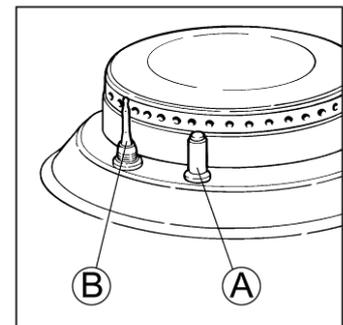

Fig. 5
- **Electric lighting of the burners with safety device** - The cook-top is equipped with electric ignition of the burners by means of spark plug "A" (Fig. 5). The spark plug operates when the push-button on the control panel is pressed. This button is marked by symbol ✨ (spark). To ignite the burner press the electric ignition push-button and, at the same time, press and turn in an anticlockwise sense the knob of the burner that is to be started to the symbol 🔥 ✨ (large flame/ignition spark). Release the electric ignition push-button once the flame has appeared and keep the gas cock knob pressed for about 6 - 8 sec., so as to let the safety thermocouple "B" heat-up. Release the knob and turn it to the position desired.